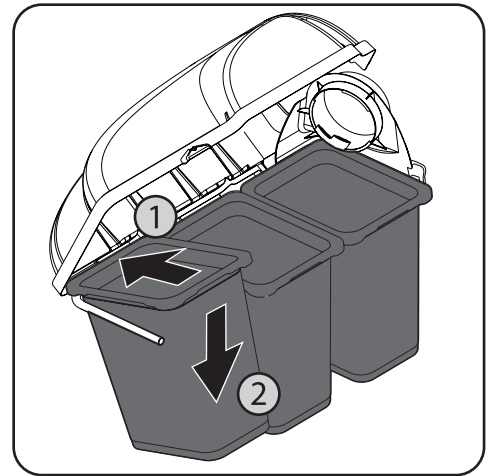

Figure 4-19
7. Install all three bag assemblies onto the bag support brackets by inserting the front edge in first (1), and then setting the back edge down until it fits into the assembly (2) as shown in Figure 4-19.